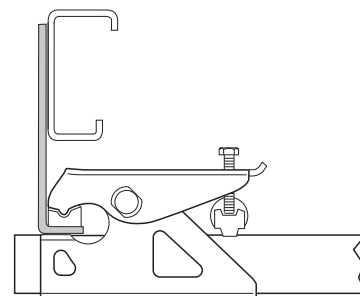
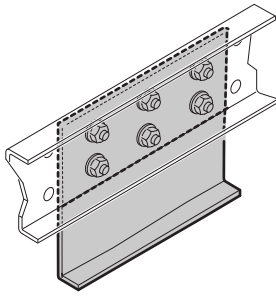

Fig. 11
Fig. 12
- Mounting plates for height compensation for standard chassis with L-profile or U-profile (Fig. 11) (Fig. 12).